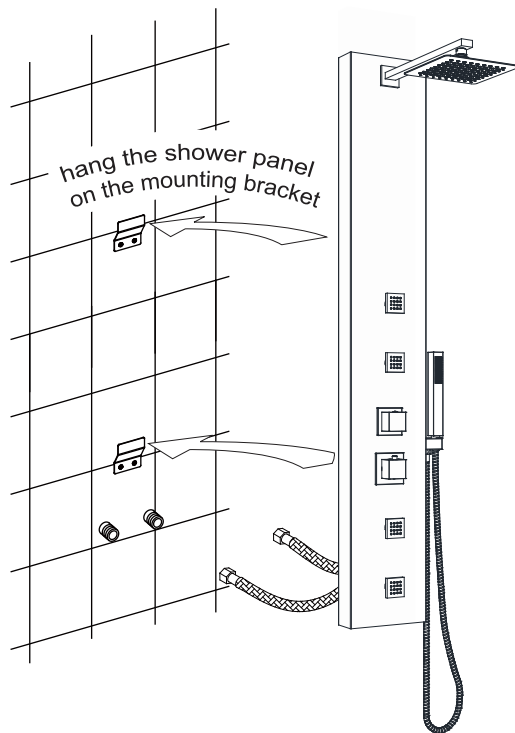

Fig 6.1
- 6-1** Connect the Hoses labeled with "Hot" or "Cold" to the outlets, then tighten the nuts of the hoses. **DO NOT OVER TIGHTEN!** (Fig 6.1)
- 6-2** Before hanging the shower panel onto the wall, turn on the faucet and test all water functions of the shower panel and check all connections for leaks. Retighten if necessary, but do not overtighten. (Fig 6.1)
- 6-3** Slide the shower panel down until it rests on the mounting brackets. Slightly pull down the shower panel to secure. (Fig 6.1, Fig 6.2)